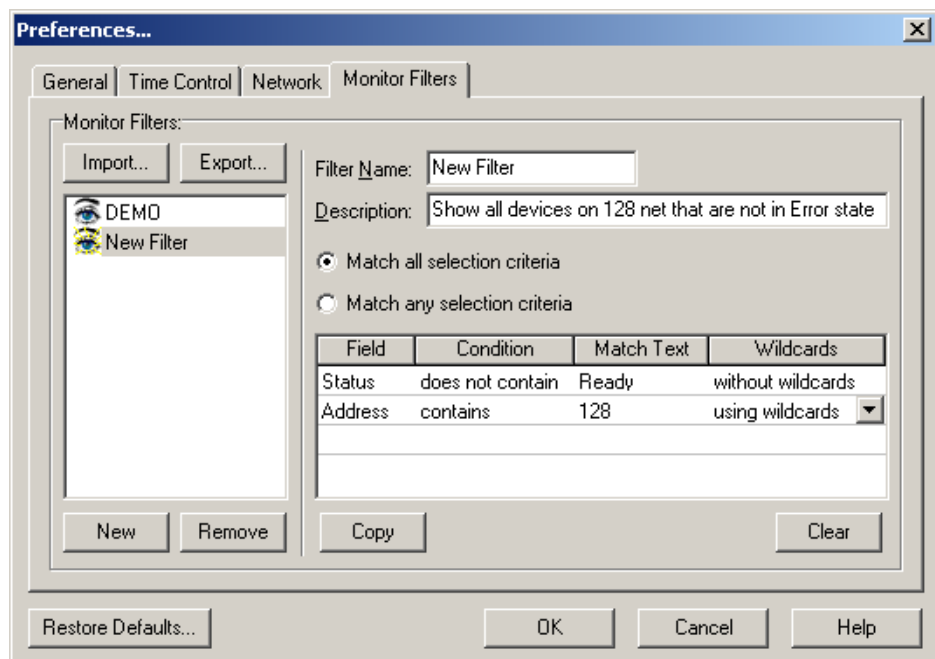

Figure 4
4. Now set up the conditions for the filter (click on the field beneath the headings to see the options) and save it by pressing **OK**. You can see how a filter is defined in Figure 4.